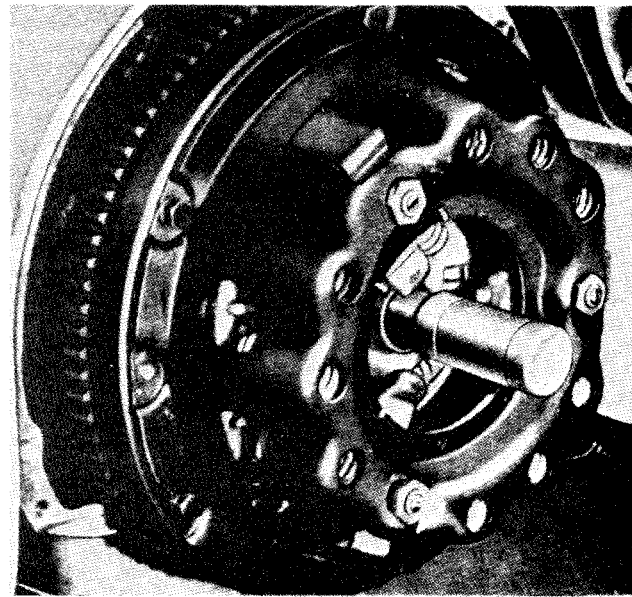

Fig. 6 Showing Constant Pinion Mandrel in position. Churchill Tool No. 20S.72.
25. REPLACEMENT OF CLUTCH TO FLYWHEEL (Fig. 6)